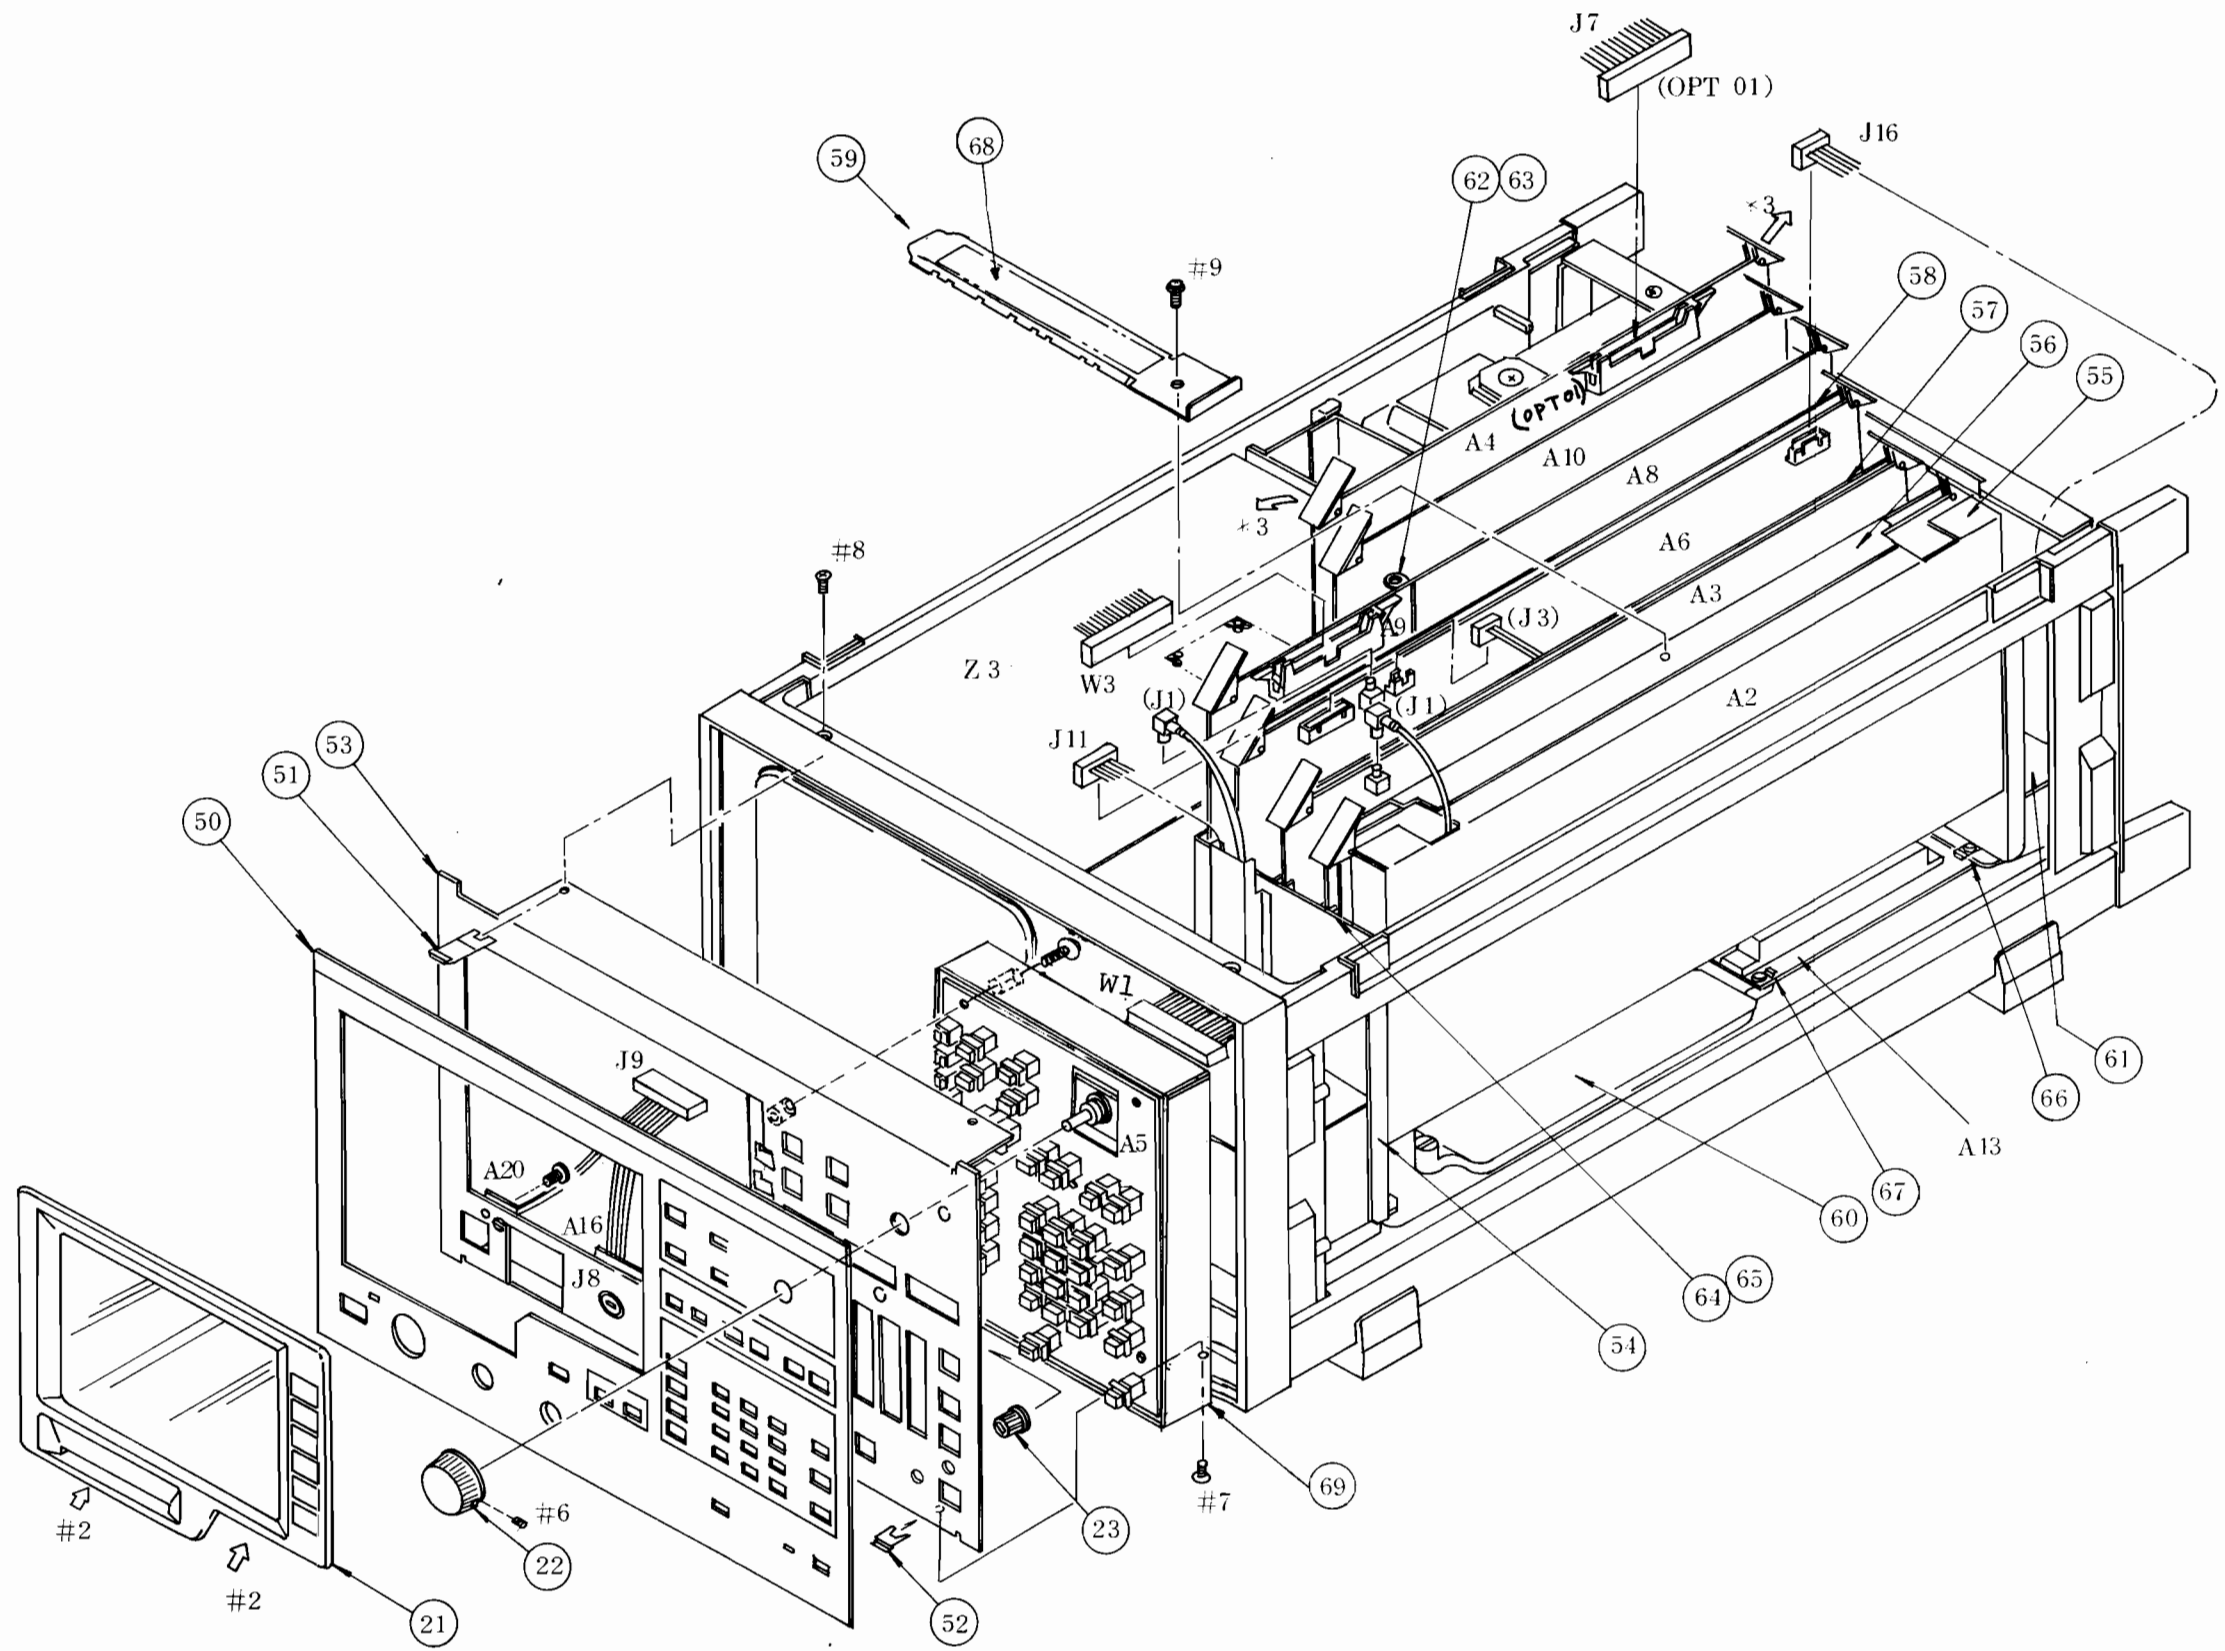
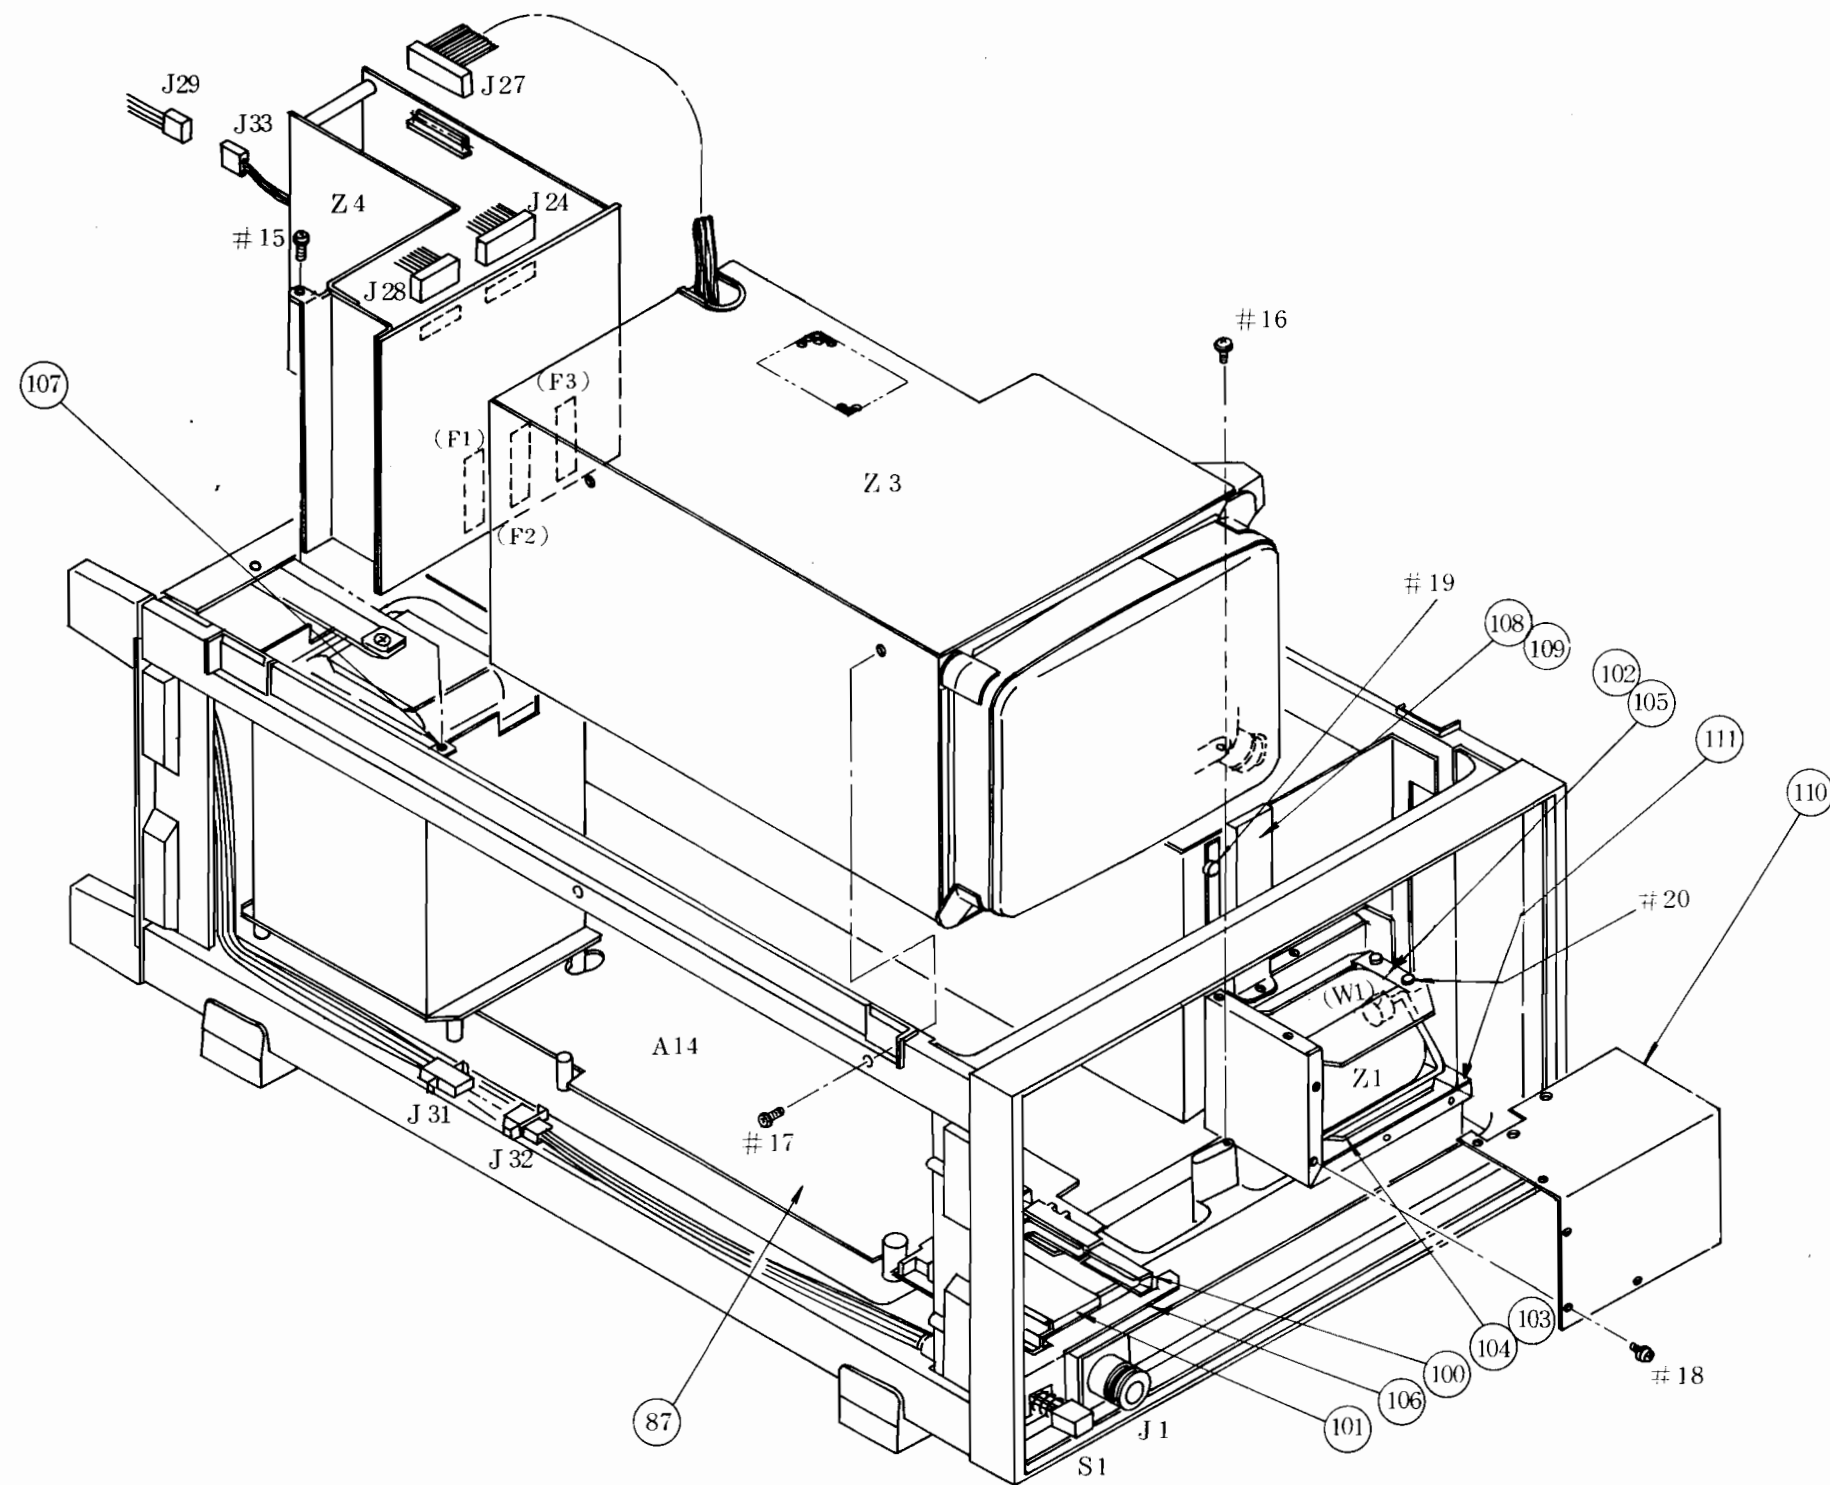

Fig. 2-3 Front Panel/Main Unit
Fig. 2-5 Z3 CRT Unit, Z4 REGULATOR Unit,
1	Remove the CRT cover (21) by pulling it toward you while lifting the part marked with *2 with both hands. (See Fig. 2-3.)
1	Remove two screws #7 at the bottom and two screws at the top by referring to Fig. 2-3 and remove both clamps (51) and (52) .
To remove the above-mentioned unit, remove the top cover (5) as described in paragraph 2.2 and follow the procedures described below. (See Fig. 2-3)
3	Lift the ejector at both sides of the unit as shown in *3 (Fig. 2-3).
The following paragraph describes how to remove the REGULATOR unit and CRT unit with reference to Fig. 2-5.
3	Remove the screw #15 by referring to Fig. 2-5.
2	Remove the Z1 YTO by following the below procedures and referring to Fig. 2-5. <ol style="list-style-type: none">1) Remove the screw #18 and the cover (110) .2) Remove the screw #19 and the upper case (108) .3) Remove the screw #20 and the bracket (105) .4) Remove the support (102) and move the Z1 YTO to the left to remove the W1 connector.5) Remove J11 (Fig. 2-3).
Table 2-3 Mechanical Parts List for Fig. 2-3